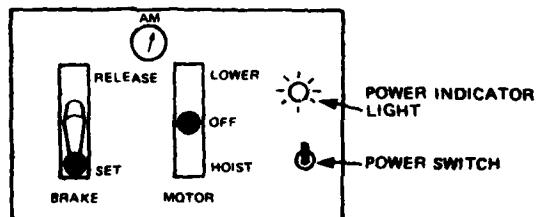

Figure 1
- Low Power. To restore lost power, the hoist operator will: (See Figure 1)